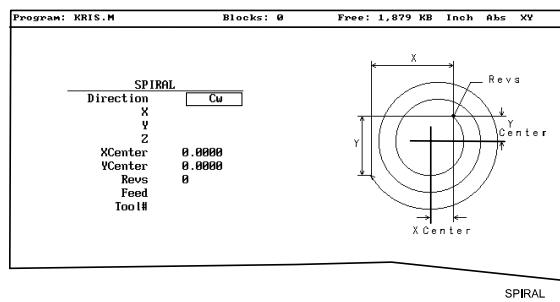

Figure 4-32, SPIRAL Graphic Menu
3. Highlight **Spiral** and press **ENTER**. The **SPIRAL** Graphic Menu prompts for labeled values. Refer to **Figure 4-32**.